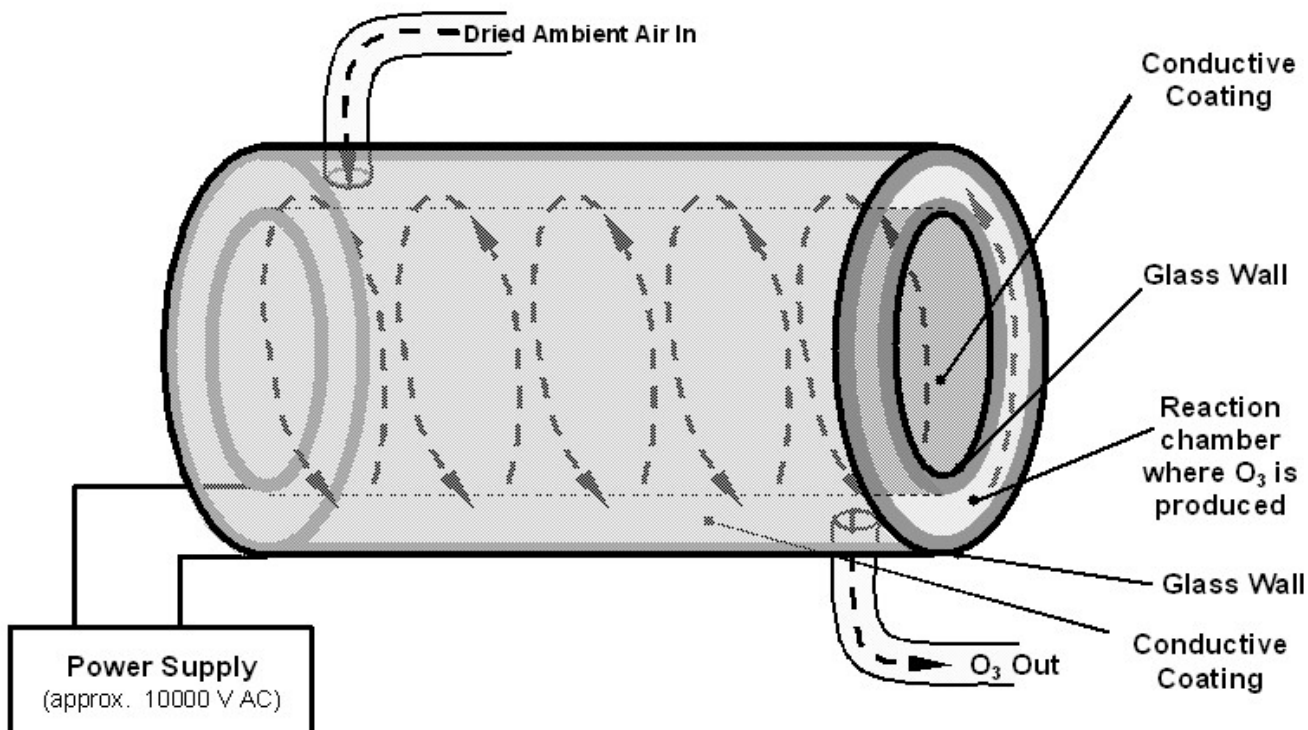

Figure 10-11: Ozone Generator Principle
The M200EH/EM uses a corona discharge (CD) tube for creating its O₃. Corona discharge generation is capable of producing high concentrations of ozone efficiently and with low excess heat. Although there are many cell designs, the fundamental principle remains the same (Figure 10-11).